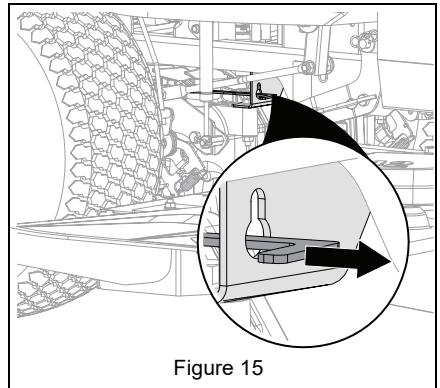

Figure 15
2. Pull both transaxle bypass levers out into bypass position. See Figure 15.